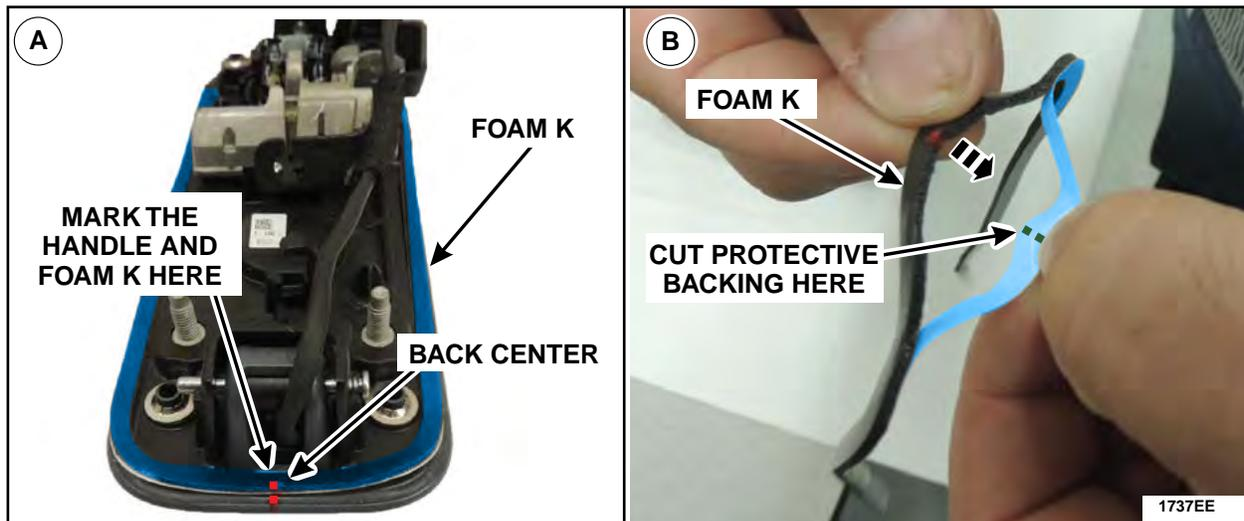

FIGURE 93
- A. Lay out Foam K on the exterior door handle and mark center as shown in Figure 93.
- B. Remove Foam K from the door handle and remove the back center portion of the adhesive backing then cut the protective backing in half. See Figure 93.